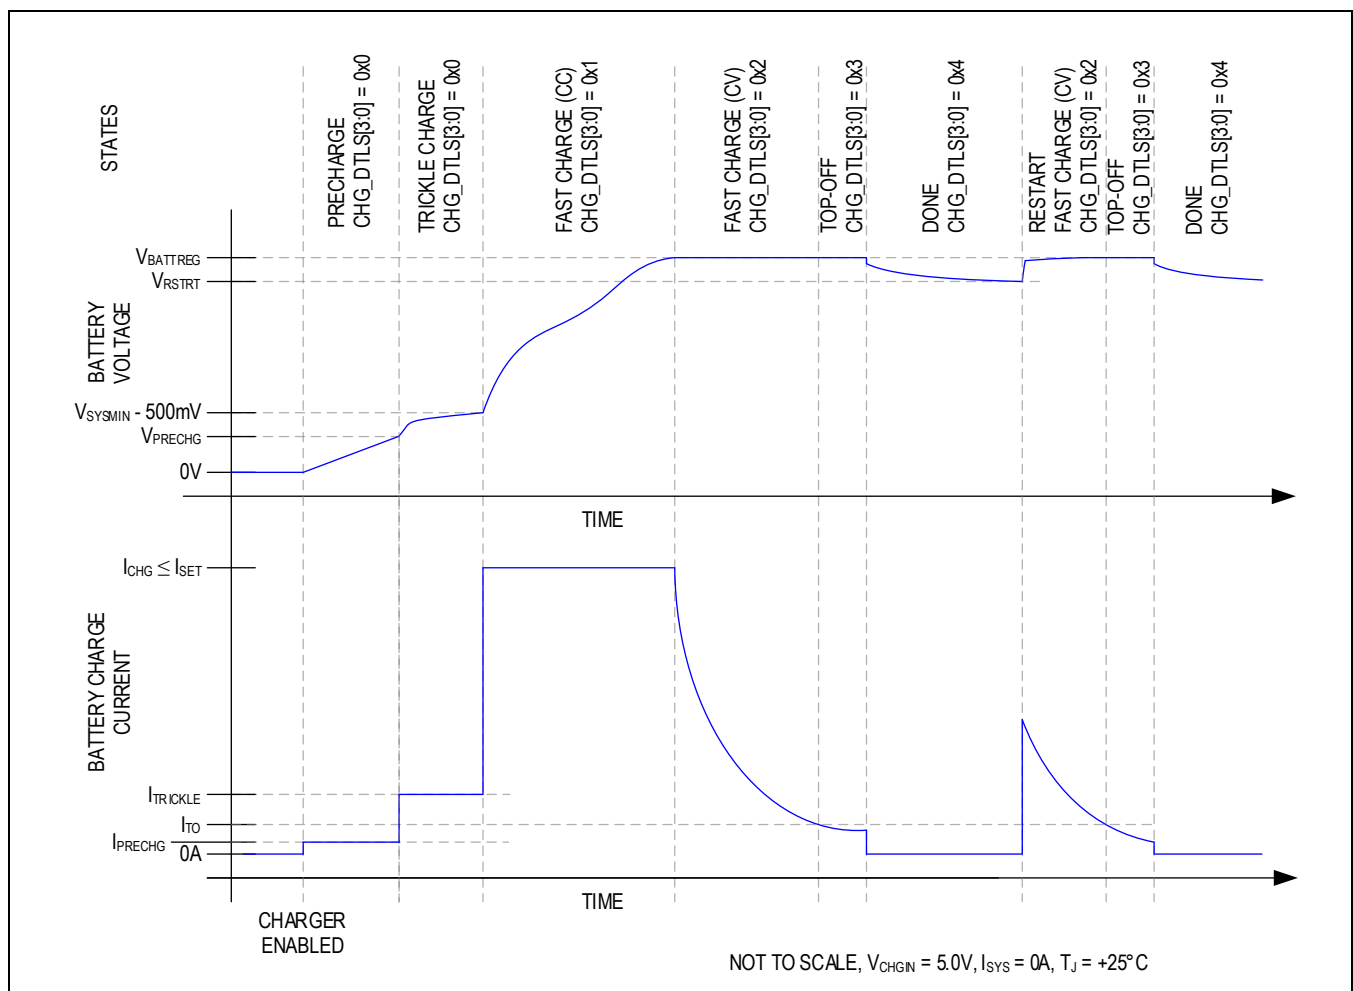
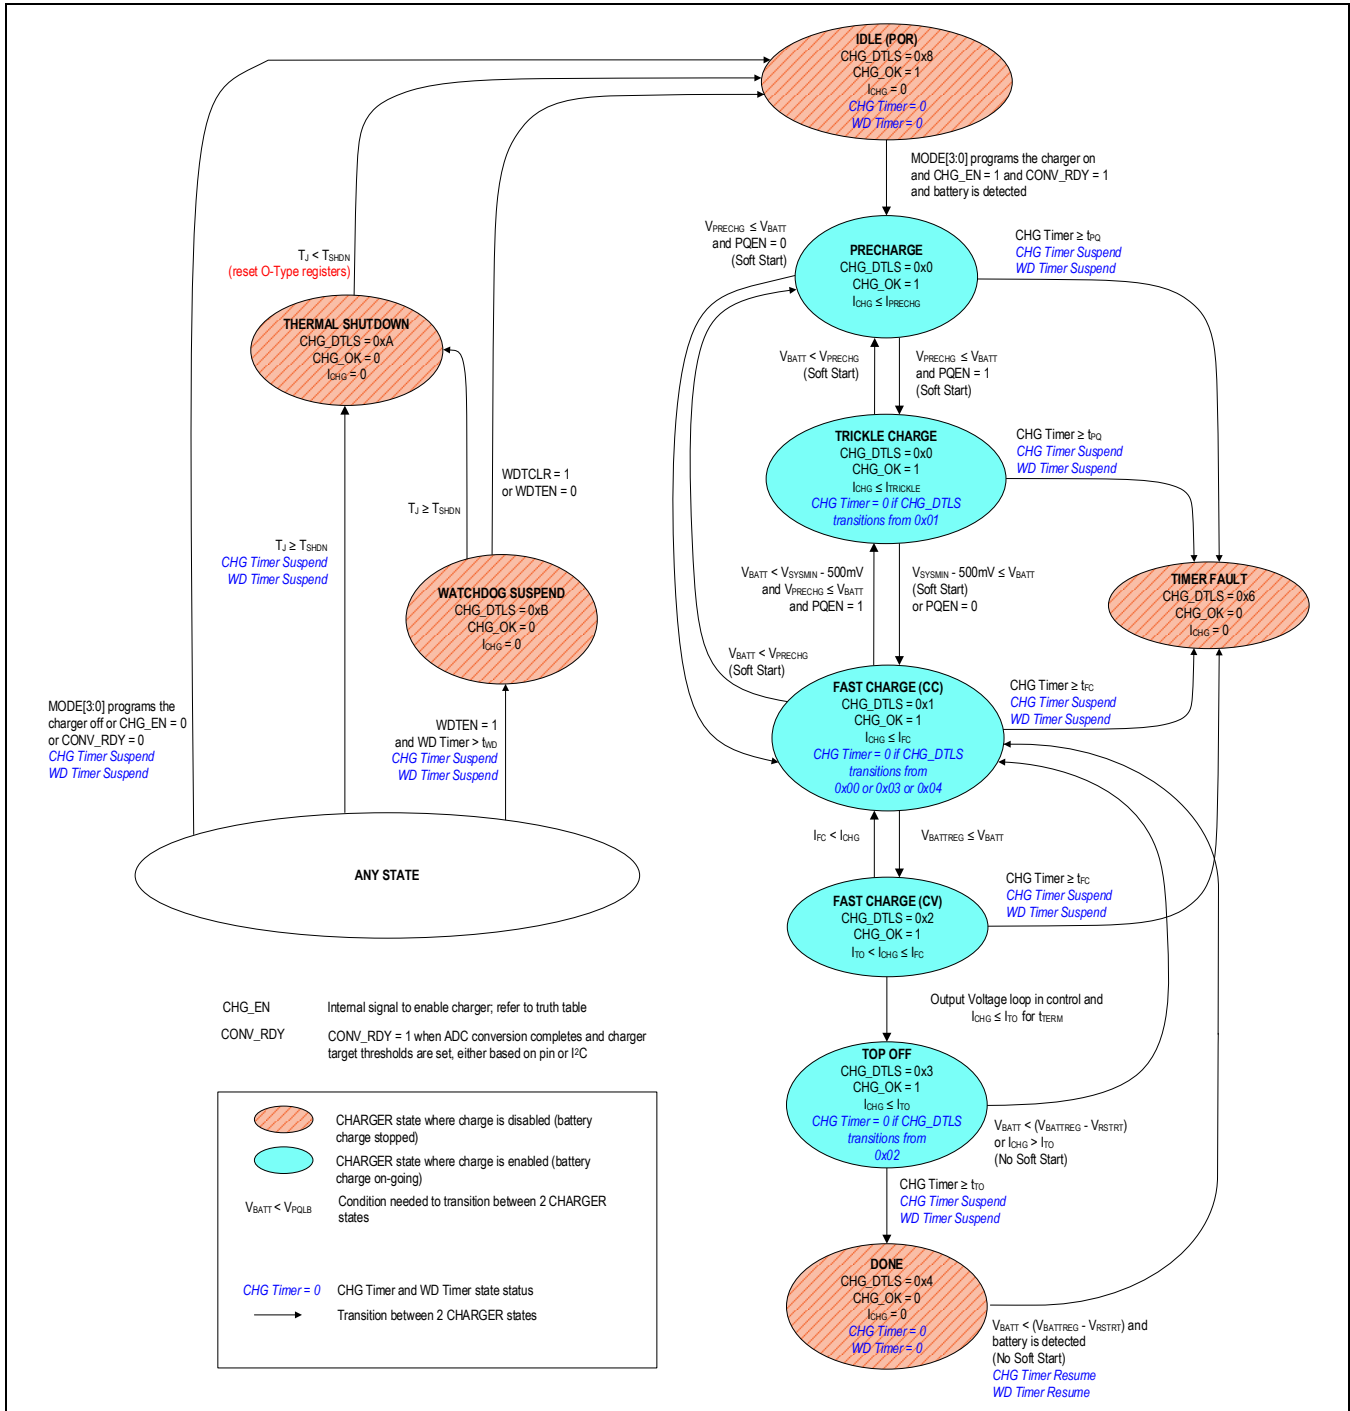

Figure 3. Li+/Li-Poly Charge Profile
Figure 4. Charger State Diagram
The MAX77963 utilizes several charging states to charge batteries safely and quickly as shown in Figure 3 and Figure 4. Figure 3 shows an exaggerated view of a Li+/Li-Poly battery progressing through the following charge states when there is no system load, and the die and battery are close to room temperature: Prequalification \rightarrow Fast-charge \rightarrow Top-off \rightarrow Done.
From any state shown in Figure 4, except thermal shutdown, the “no input power or charger disabled” state is entered whenever the charger is programmed to be off or the charger input CHGIN is invalid. After being in this state for t_{SCIDG} , CHG_DTLS is set to 0x08, and CHG_OK is set to 1. A CHG_I interrupt is generated if CHG_OK was 0 previously.
As shown in Figure 4, the charger enters the precharge state when the battery voltage is less than V_{PRECHG} . After being in this state for t_{SCIDG} , a CHG_I interrupt is generated if CHG_OK was 0 previously, CHG_OK is set to 1, and CHG_DTLS is set to 0x00. In the precharge state, charge current into the battery is I_{PRECHG} .
As shown in Figure 4, the charger state machine is in trickle charge state when $V_{PRECHG} < V_{BATT} < V_{SYSTEMIN} - 500mV$. After being in this state for t_{SCIDG} , a CHG_I interrupt is generated if CHG_OK was 0 previously, CHG_OK is set to 1, and CHG_DTLS = 0x00.
As shown in Figure 4, the charger enters the fast-charge constant current (CC) state when $V_{SYSTEMIN} - 500mV$ (typical) $< V_{BATT} < V_{BATTREG}$. After being in the fast-charge CC state for t_{SCIDG} , a CHG_I interrupt is generated if CHG_OK was 0 previously, CHG_OK is set to 1, and CHG_DTLS = 0x01.
As shown in Figure 4, the charger enters the fast-charge constant voltage (CV) state when the battery voltage rises to $V_{BATTREG}$ from the fast-charge CC state. After being in the fast-charge CV state for t_{SCIDG} , a CHG_I interrupt is generated if CHG_OK was 0 previously, CHG_OK is set to 1, and CHG_DTLS = 0x02.
In the fast-charge CV state, the battery charger maintains $V_{BATTREG}$ across the battery and the charge current is less than or equal to I_{FC} . As shown in Figure 3, charger current decreases exponentially in this state as the battery becomes fully charged.
As shown in Figure 4, the top-off state can only be entered from the fast-charge CV state when the charger current decreases below I_{TO} for t_{TERM} . After being in the top-off state for t_{SCIDG} , a CHG_I interrupt is generated if CHG_OK was 0 previously, CHG_OK is set to 1, and CHG_DTLS = 0x03. In the top-off state the battery charger maintains $V_{BATTREG}$ across the battery and typically the charge current is less than or equal to I_{TO} .
As shown in Figure 4, the battery charger enters its done state after the charger has been in the top-off state for t_{TO} . After being in this state for t_{SCIDG} , a CHG_I interrupt is generated only if CHG_OK was 0 previously, CHG_OK is set to 0, and CHG_DTLS = 0x04.
The battery charger provides both a charge timer and a watchdog timer to ensure safe charging. As shown in Figure 4, the charge timer prevents the battery from charging indefinitely. The time that the charger is allowed to remain in its prequalification states is t_{PQ} . The time that the charger is allowed to remain in the fast-charge CC and CV states is t_{FC} which is programmable with FCHGTIME. Finally, the time that the charger is in the top-off state is t_{TO} which is programmable with TO_TIME. Upon entering the timer fault state, a CHG_I interrupt is generated without a delay, CHG_OK is cleared, and CHG_DTLS = 0x06.
The charger is off in the timer fault state. The charger can exit the timer fault state when the charger is programmed to be off then on again through the MODE bits or when DISQBAT pin is toggled from L-H-L. Alternatively, the charger input can be removed and re-inserted to exit the timer fault state (see the “ANY STATE” bubble in Figure 4).
The battery charger provides both a charge timer and a watchdog timer to ensure safe charging. As shown in Figure 4, the watchdog timer protects the battery from charging indefinitely if the host hangs or otherwise cannot communicate correctly. The watchdog timer is disabled by default with WDTEN = 0. Enable the feature by setting WDTEN = 1. With watchdog timer enabled, the host controller must reset the watchdog timer within the timer period (t_{WD}) for the charger to operate properly. Reset the watchdog timer by programming WDTCLR = 0x01.
As shown in Figure 4, the state machine enters the thermal shutdown state when the junction temperature (T_J) exceeds the device's thermal-shutdown threshold (T_{SHDN}). When T_J is close to T_{SHDN} , the charger would have already folded back the input current to 0A (see the Thermal Foldback section for more details), so the charger and the DC-DC are effectively off. Upon entering this state, CHG_I interrupt is generated if CHG_OK was 1 previously, CHG_OK is cleared, and CHG_DTLS = 0x0A.